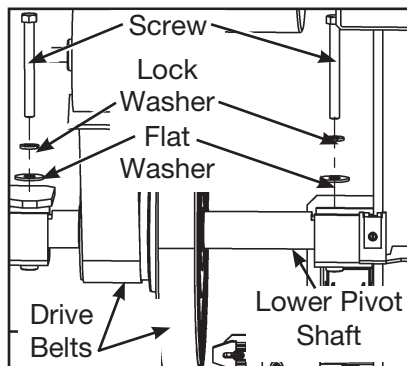

Figure 7
A. Using a 7/16" socket wrench, remove the two screws, two lock washers and two flat washers from the lower pivot shaft. See Figure 7.